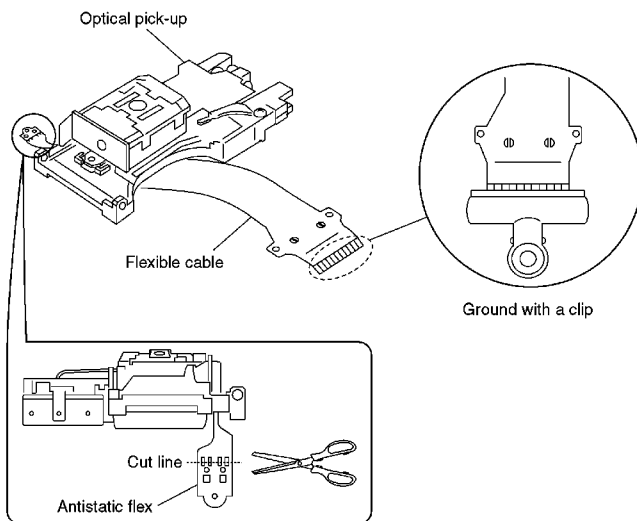

Fig. 2-1.
2. To prevent the breakdown of the laser diode, an antistatic shorting pin or similar object is inserted into the flexible board (FFC board). Refer to Fig. 2-1.
4. A new optical pick-up has an antistatic flex. When the optical pick-up is replaced, connect the flexible cable (FFC) to the connector first, and then cut the antistatic flex. Refer to Fig. 2-1.